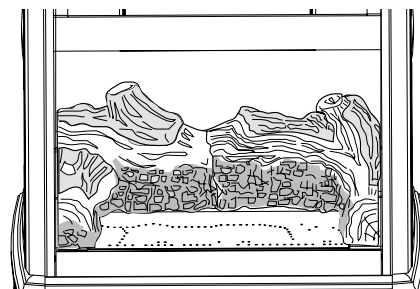

Figure 29. Middle Log and ember stones in place.
2. Locate the Middle Log as shown in fig. 29.
**NOTE: Keep the ember stones 1/4" away from the edge of the Burner Skirt and Pilot Assembly. See fig. 29. All the ember stones do not have to be used.**
2. **PILOT FLAME:** You can monitor the pilot flame through the opening at the upper left corner burner skirt, under the rear log. See fig. 29. The pilot flame should be steady - not lifting or floating. The flame should be blue in color around the pilot hood, with traces of yellow toward the outer edges.